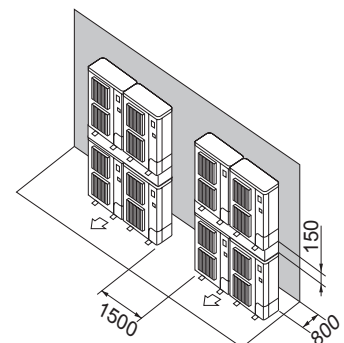

Fig. 4-18
- ⑦ Stacked unit arrangement (Fig. 4-18)